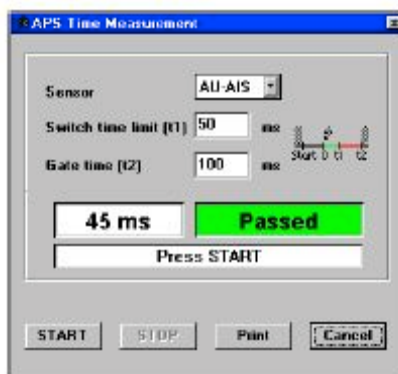

Fig.3 APS Time Measurement Window
4. Select an event for triggering the switch process from the "Sensor" list box in APS time measurement window (shown in fig.3)
9. Result is displayed in APS measurement window (again refer fig.3)
As can be seen in fig.3, two results are displayed once the measurement is completed :